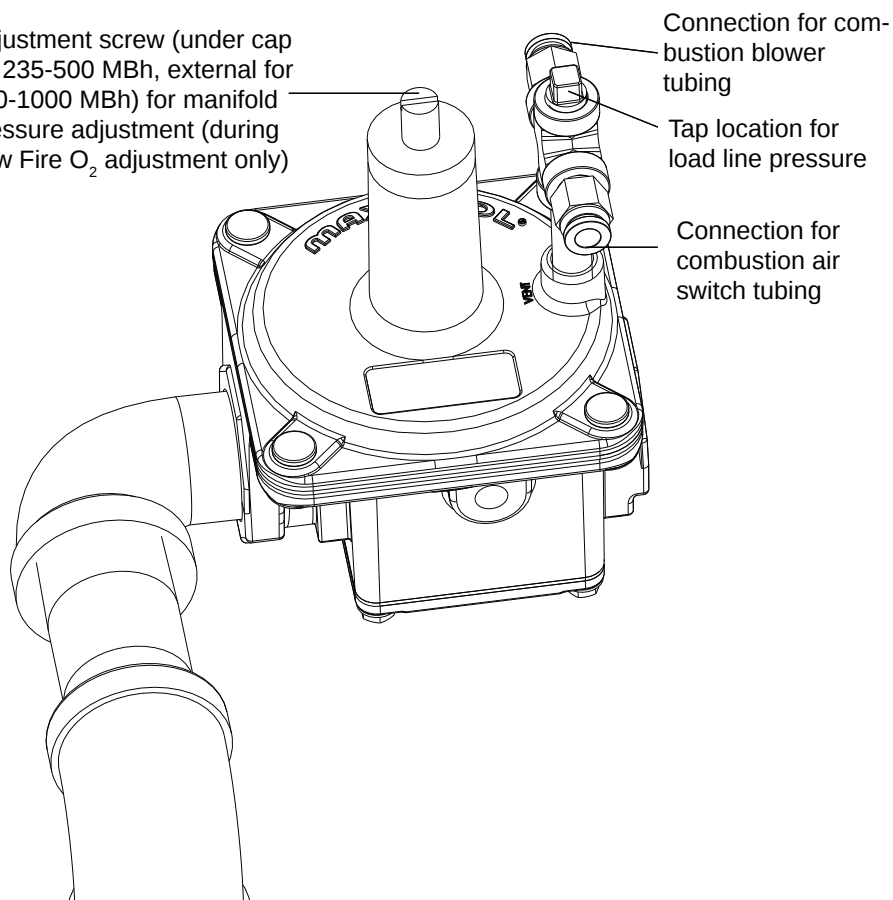

Figure 141. Manifold pressure tap location - two-stage and modulating
12. **Low Fire Manifold Pressure Adjustment:** Adjust the User interface to operate the furnace at low firing rate (1%) and/or 1st Stage. Allow the system to operate for 10 minutes to allow the burner to stabilize. Check manifold pressure at tap closest to where the valve train attaches to the burner. See Figure 141, p. 180.